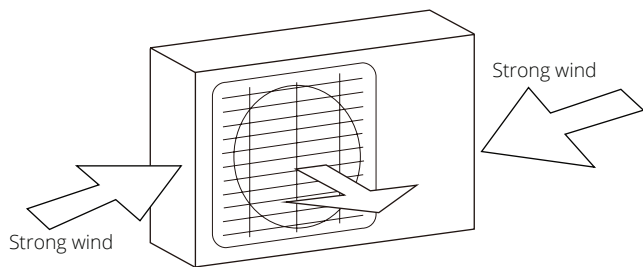
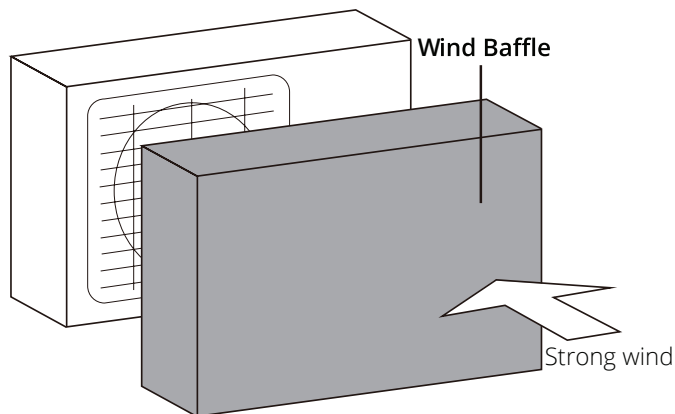

Fig. 5.2
Fig. 5.3
**If the unit is exposed to heavy wind:** Install unit so that air outlet fan is at a 90° angle to the direction of the wind. If needed, build a barrier in front of the unit to protect it from extremely heavy winds. Ensure the wind barrier does not block necessary air flow. See Fig. 5.2 and Fig. 5.3 below.